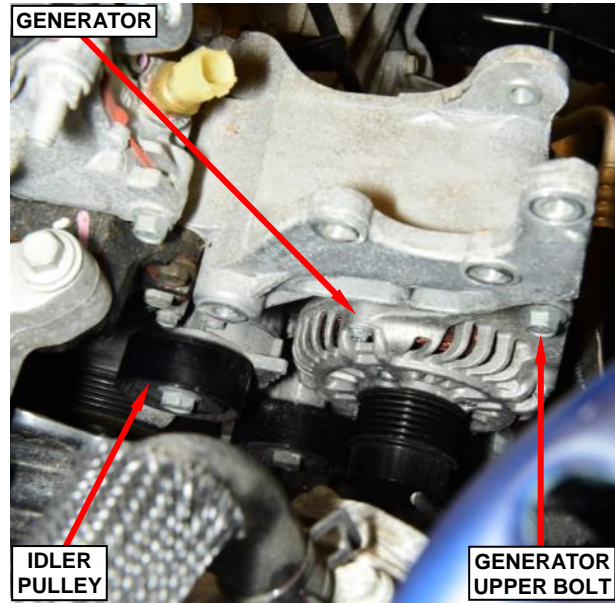

Figure 26 – Generator
87. Remove and save the upper accessory drive idler pulley (Figure 26).
88. Loosen but do not remove the upper generator bolt (Figure 26).